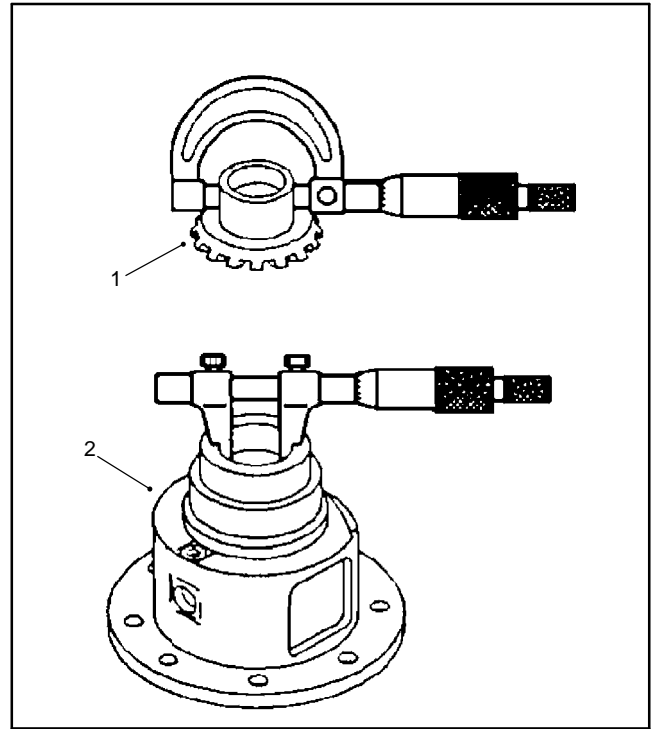

Figure 37
1. Measure the differential side gear O.D. and the differential case I.D. to determine the side gear to case clearance (Fig. 37). Replace components as necessary.